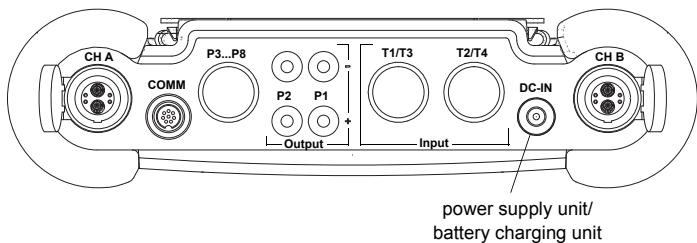

Fig. 6.7: Connections of the transmitter FLUXUS F601
Connect the power supply unit to the transmitter (see Fig. 6.7). Switch on the transmitter. The charging starts automatically. The LED "BATTERY" flashes green while charging. The max. charging time is approx. 5 h.
- Connect the power supply unit to the socket on the upper side of the transmitter (see Fig. 6.7).